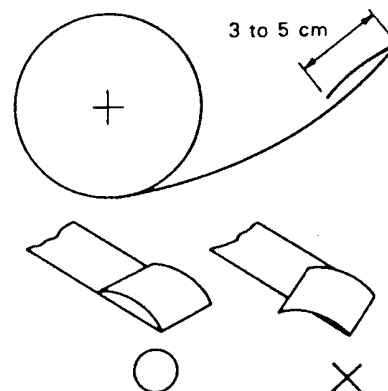

Fig. 3-5. Preparing the Paper's Leading Edge
- (2) Prepare the paper's leading edge as shown in Fig. 3-5.